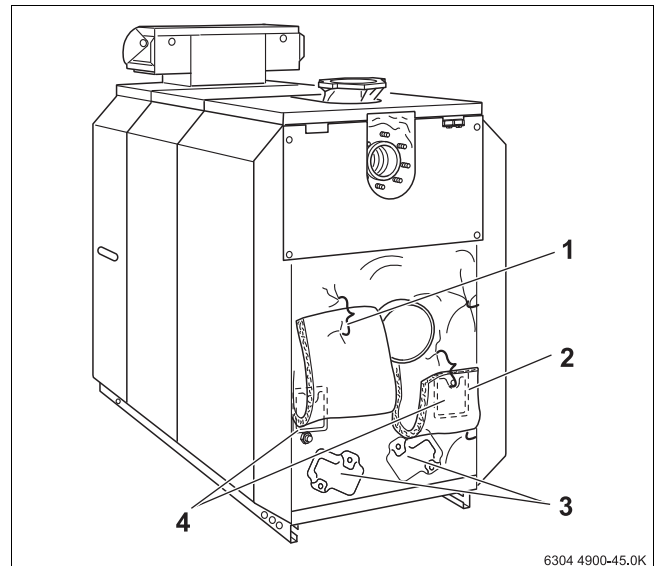

Fig 63 Removing the clean-out covers
- Remove the combustion residues by sweeping them forwards through the combustion chamber opening and through the clean-out openings on the rear section and the flue gas header → Fig. 63, page 47.